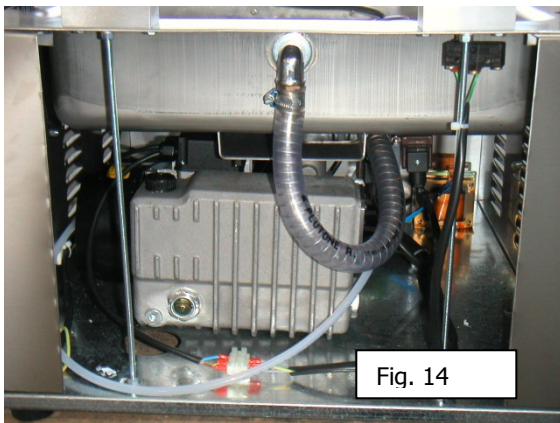

Fig. 14
2. Remove the casing as shown in fig. 14.